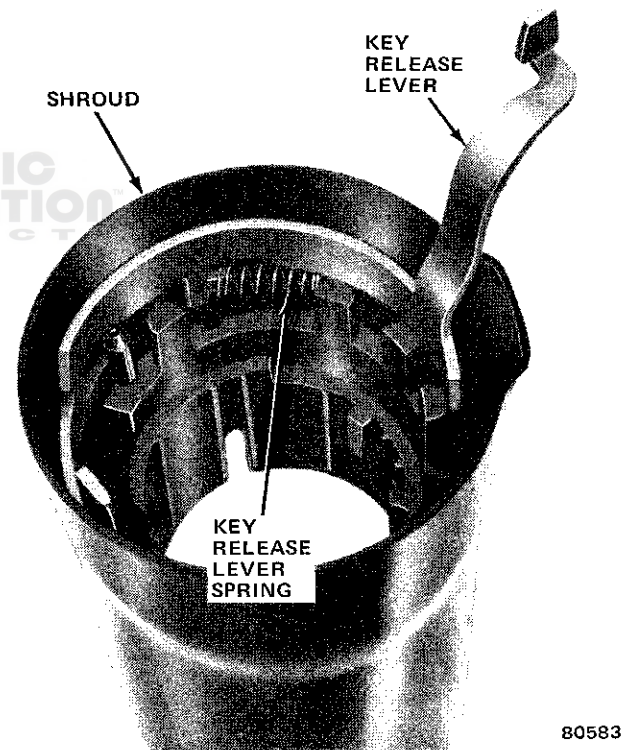

Fig. 2J-62 Key Release Lever and Spring Removal/Installation
(40) Remove support attaching bolts and remove support (fig 2J-59). Use 1/4-inch, 12-point deep socket to remove bolts.